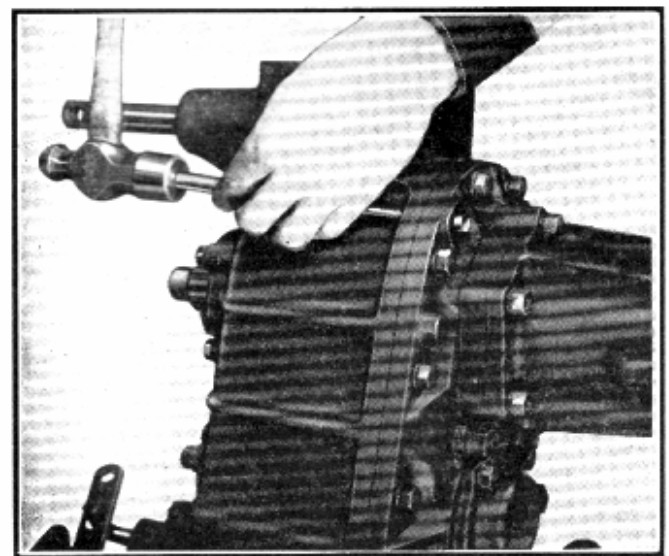
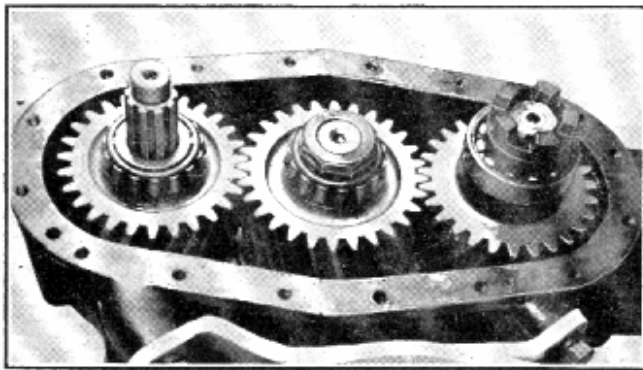

Fig. 16—Driving Out Cover Dowels
Fig. 17—Transfer Case with Cover Removed Showing Gears and Shafts
9. Drive out the two dowel pins toward the rear of the case as illustrated in Fig. 16 and remove the cap screws and cover from the case. Fig. 17 illustrates the transfer case with the cover removed.
10. The mainshaft (86), the idler shaft (92) and the driven shaft (95) with gears, can now be removed from the case.